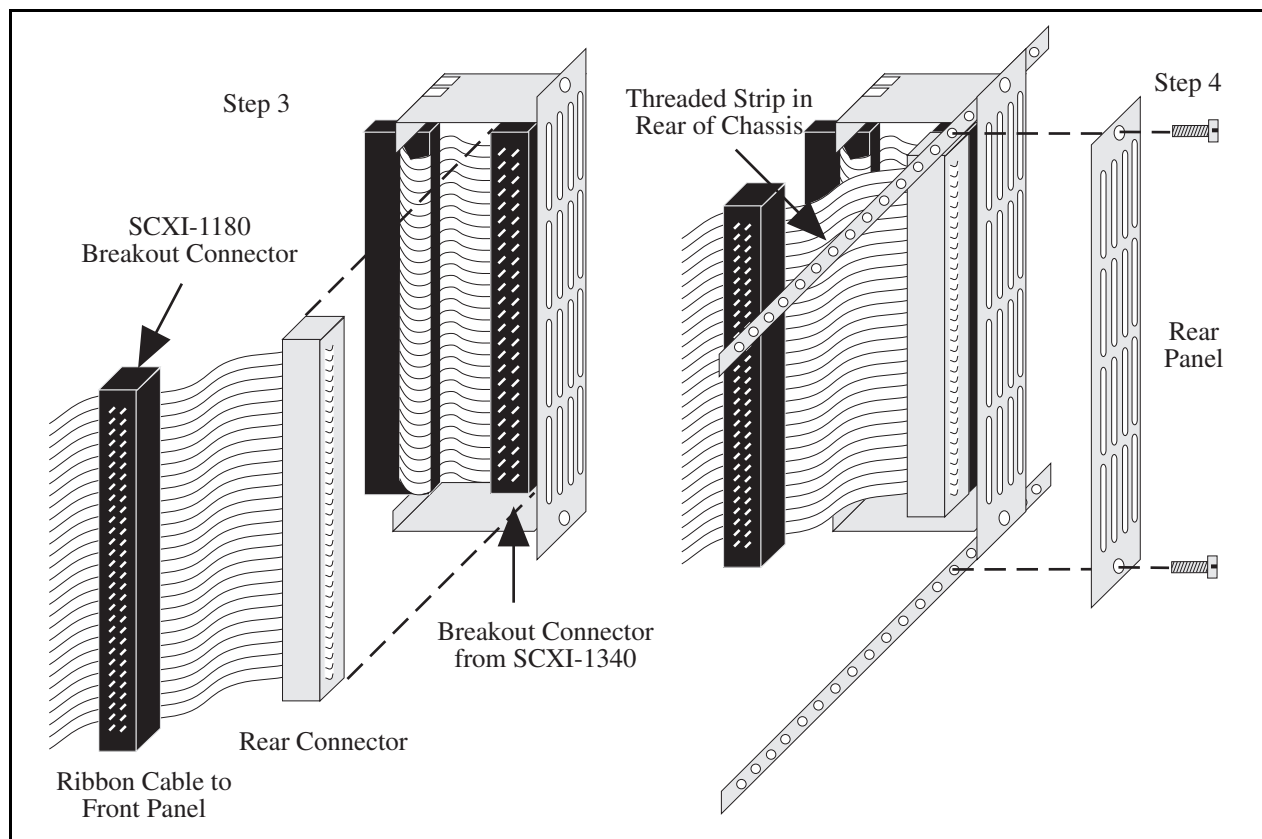

Figure E-3. SCXI-1180 Rear Connections
3. Thread the rear connector through the front of the chassis to the rear of the chassis. Attach the rear connector to the breakout connector of the adjacent cable assembly or slot extender, as shown in Figure E-3.